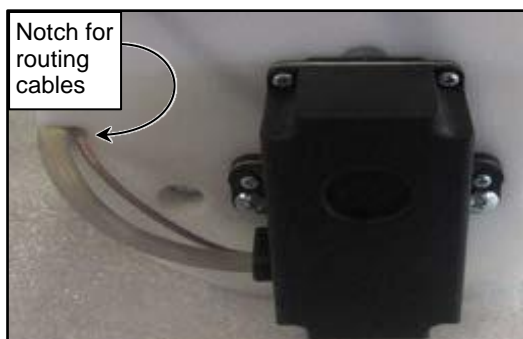

Figure 98
7. Route the cables through the notch in the white plastic plate and re-install the brake cover. (See Figure 98)